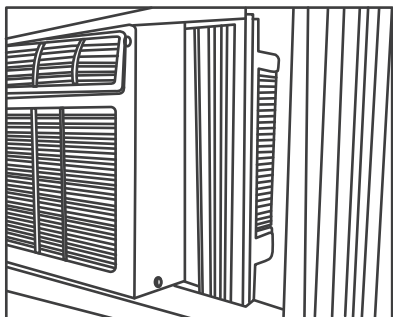

Fig.5
- 2 Keeping a firm grip on the air conditioner, carefully place the unit into the window opening so the bottom of the air conditioner frame is against the window sill (Fig.5). Carefully close the window behind the top rail of the unit. (Remember to keep a downward tilt towards the back, to let condensate and accumulated rain water to drain out, from back side of the unit's bottom.)